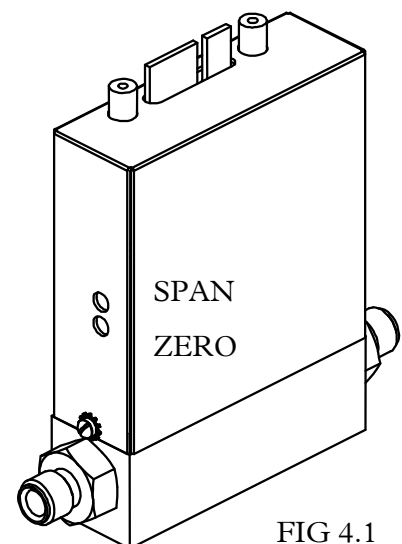

FIG 4.1
4.3.1. Calibration Procedure: (Figure 4.1)
The end cap on the inlet side must be removed to gain access to the filter or shunt assembly. First shut off the supply of gas to the instrument. Disconnect the Swagelok fitting on the inlet and outlet sides of the transducer, and remove it from the system plumbing. Remove the four hex bolts holding the end cap to the instrument (see Figure 4.1). Carefully remove the end cap, filter, wave spring (if present) and shunt, noting their order and proper orientation. The shunt can be severely damaged if dropped. Examine the filter and shunt. If either is dirty or blocked, clean or replace as applicable. Reassembly is the reverse of the removal procedure. Recalibration of the HFC is necessary.